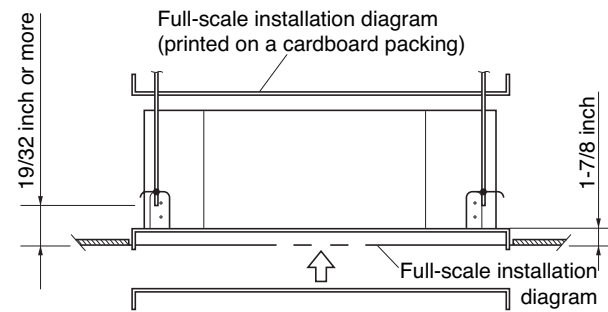
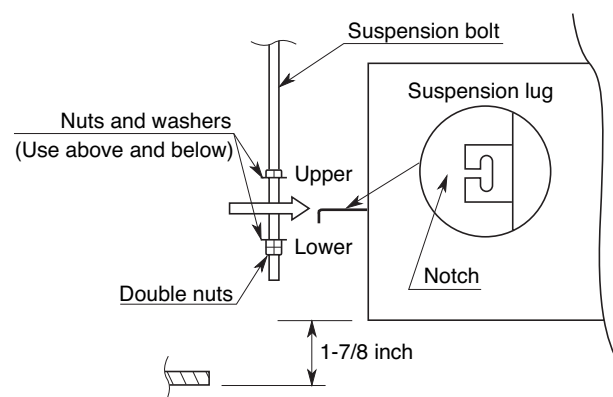

Fig. 3-4
Fig. 3-5
- (1) When placing the unit inside the ceiling, determine the pitch of the suspension bolts using the supplied full-scale installation diagram. (Fig. 3-4) The size of the opening for the indoor unit can be confirmed by attaching the full-scale installation diagram beneath the unit. (Fig. 3-4) Tubing and wiring must be laid inside the ceiling when suspending the unit. If the ceiling is already constructed, lay the tubing and wiring into position for connection to the unit before placing the unit inside the ceiling.
- (2) The length of each suspension bolt must be appropriate for a distance between the bottom of the bolt and the bottom of the ceiling of 19/32 in. or more as shown in Fig. 3-4.
- (3) Thread the 2 hexagonal nuts (field supply) and washers onto the 4 suspension bolts as shown in Fig. 3-5. Use 2 sets of nuts and washers (upper and lower), so that the unit will not fall off the suspension lugs.
- (4) Remove the protective cardboard used to protect the fan parts during transport.
- (5) Adjust the distance between the unit and surface of the ceiling. (1-7/8 in.) (Fig. 3-4)